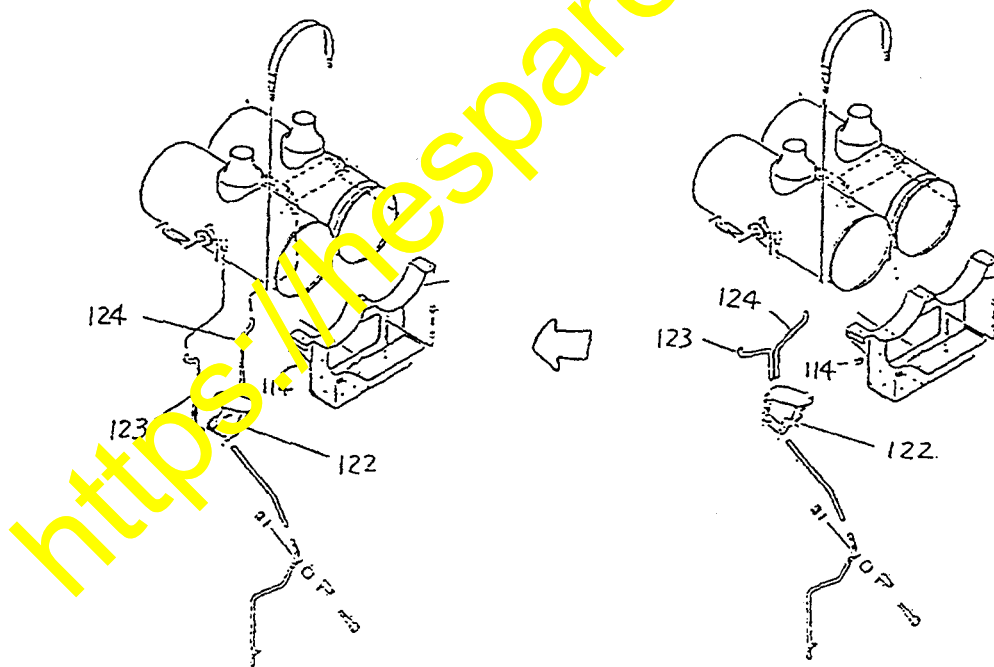

Fig. 49
⑯ Common muffler water drain tube on WA800-2 (Fig. 49)